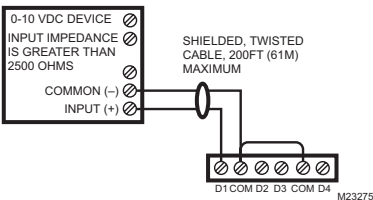

Fig. 10. Analog output wiring diagram.
Analog Outputs (AO) are referenced by the terminals labeled *An* and 0 V (ground). Each AO can supply a maximum of 4 mA over the entire 0 to 10 Vdc range. The minimum input impedance of a device controlled by an AO must be greater than 2500 ohms. Typical wiring for an AO is shown in Fig. 10. For each AO, use a **VoltageOutputWritable** in the station database.